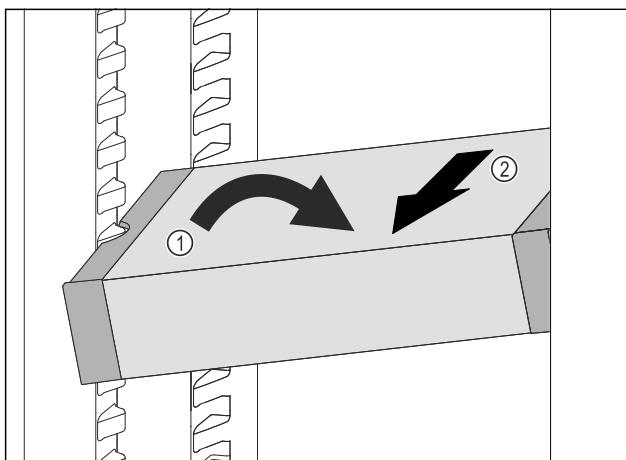

Fig. 90
- Set VarioSafe in refrigerator compartment at an angle. Fig. 90 (1)
- Take VarioSafe out to the front. Fig. 90 (2)